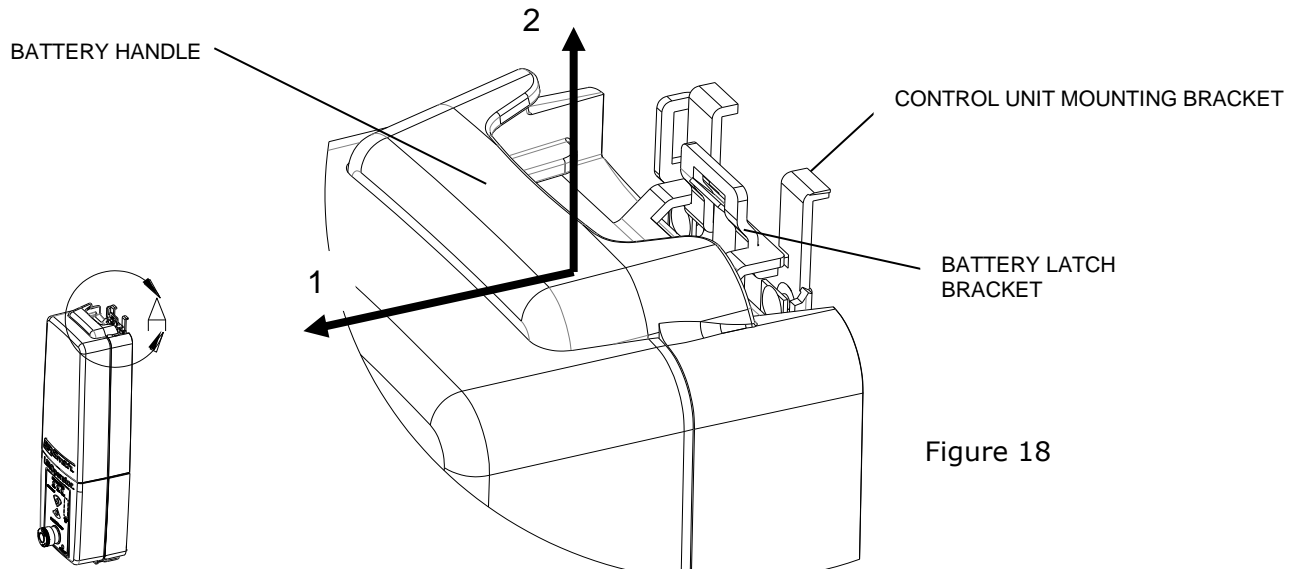

Figure 18
24. Attach battery to LiftOperator Control Box making sure that the battery latch bracket locks into the slots on the control unit mounting bracket. To remove the battery from the control unit, (1) pull outward on the battery handle until the battery latch bracket clears the slots in the control unit mounting bracket, (2) then pull upward, see Figure 18.